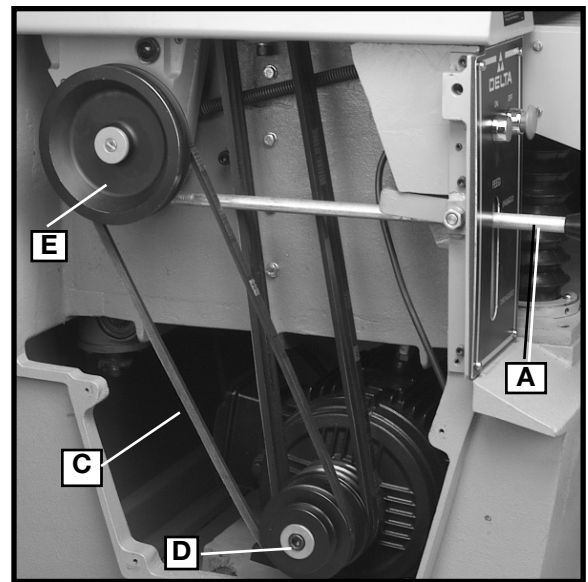

Fig. 12
To change feed roll speeds, make sure the feed roll engagement lever (A) Fig. 12, is disengaged (in the down position) and open the left side door of the machine. When the belt (C) is on the smallest step of the motor pulley (D) and the largest step of the gearbox pulley (E), the feed roll speed will be 25 feet per minute. When the belt (C) is on the largest step of the motor pulley (D) and the smallest step of the gearbox pulley (E), the feed roll speed will be 46 feet per minute.